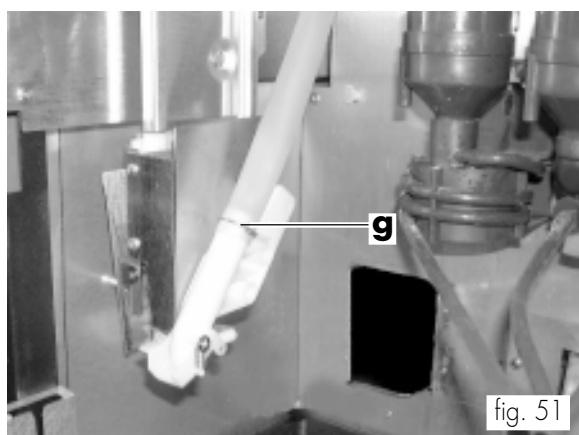

fig. 51
- Remove the sugar-dispensing channel by opening the screw (ref. g, fig. 51).